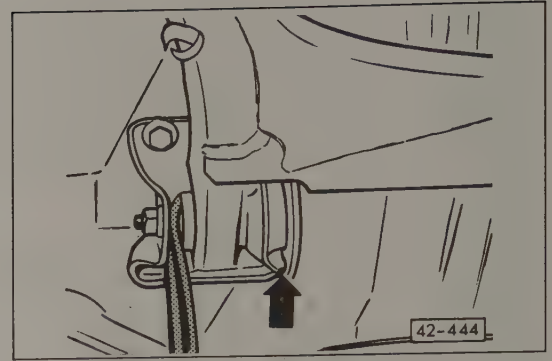

Fig. 6-8. Positioning left axle beam mounting bracket with prybars. Move bracket to left, leaving slight gap (arrow).
3. Using two prybars, push the left (driver's-side) mounting bracket to the left, leaving only a slight gap between the inside of the bushing and the mounting bracket, as shown in Fig. 6-8. Torque the mounting bracket bolts to 85 Nm (63 ft. lb.).